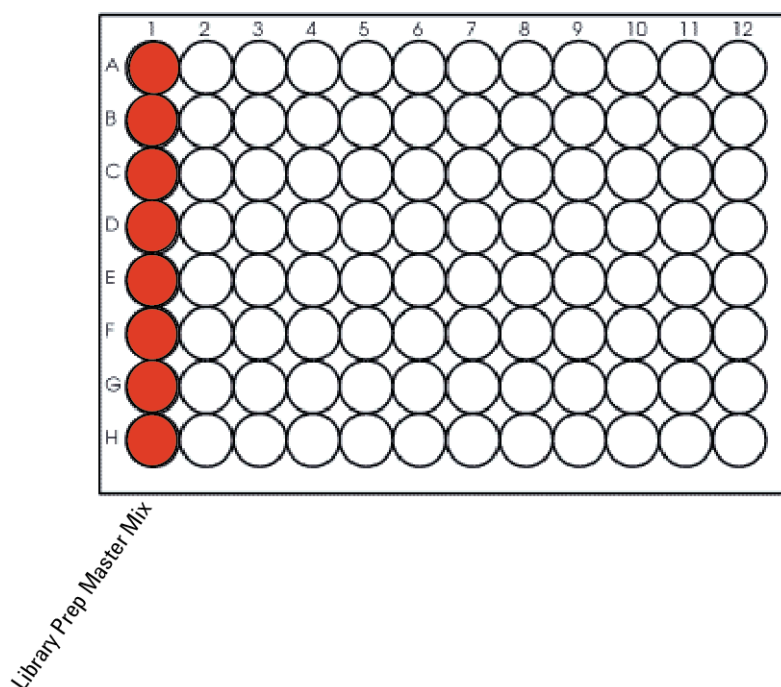

Figure 3 Configuration of the master mix source plate for 01 Tn_QXT_ILM_v1.0.pro
- 7 Prepare the Library Prep master mix source plate using a Nunc DeepWell plate, containing the mixture from **step 6**. Add the volume indicated in **Table 14** to all wells of column 1 of the Nunc DeepWell plate. Keep the master mix on ice during the aliquoting steps. The final configuration of the master mix source plate is shown in **Figure 3**.